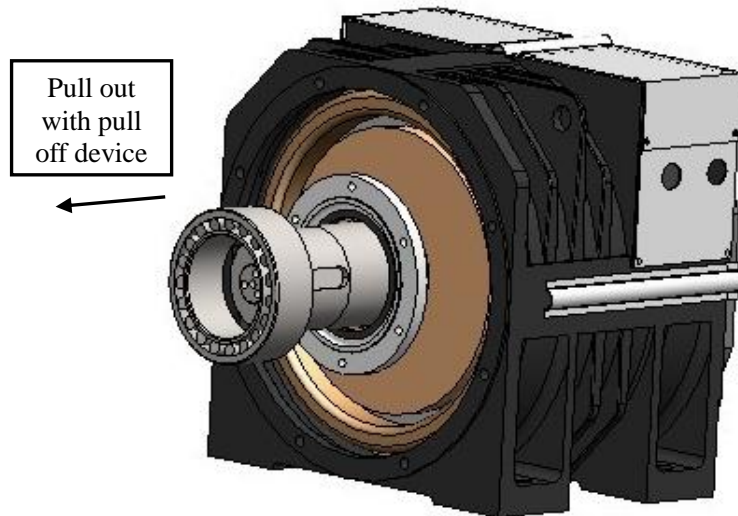

Figure 78: Front bearing removal
9. Pull out the bearing with the bearing puller. (It is permissible to cut the bearing off.) See Figure 78.